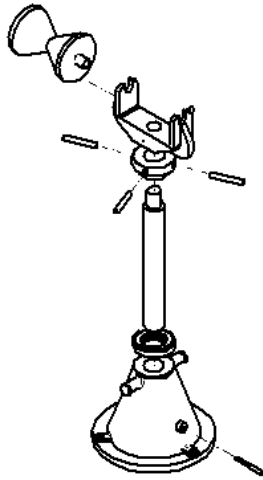

Figure 12-27 Exploded view
5. Place the view on the drawing sheet; an exploded view is generated, as shown in Figure 12-27.